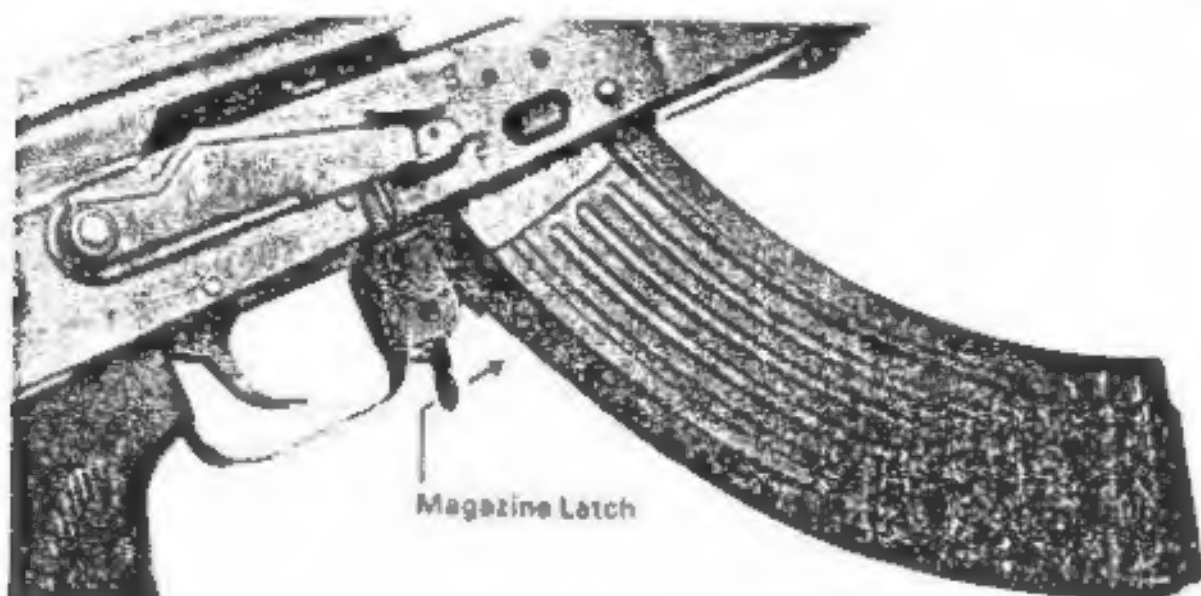

Figure 11
- 2 Remove the magazine by pushing forward on the magazine latch while pulling the magazine down and out of the receiver. (See Fig. 11.)